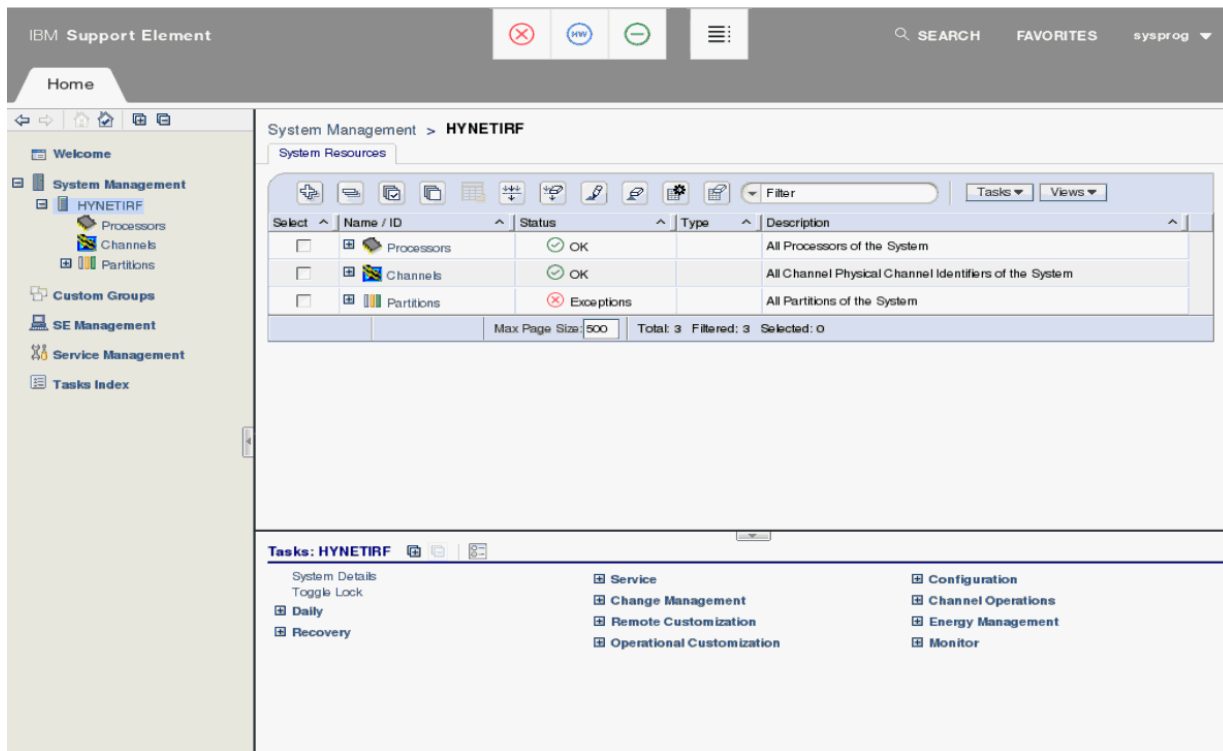

Figure 6. System selected and task categories displayed
1. In the Support Element workspace, in the navigation pane on the left, expand **System Management** if it is not already expanded. This action displays the system. Click the server to select it. This action displays tasks categories, such as **Recovery**, in the tasks pad at the bottom of the work pane. Figure 6 on page 6 shows these categories.